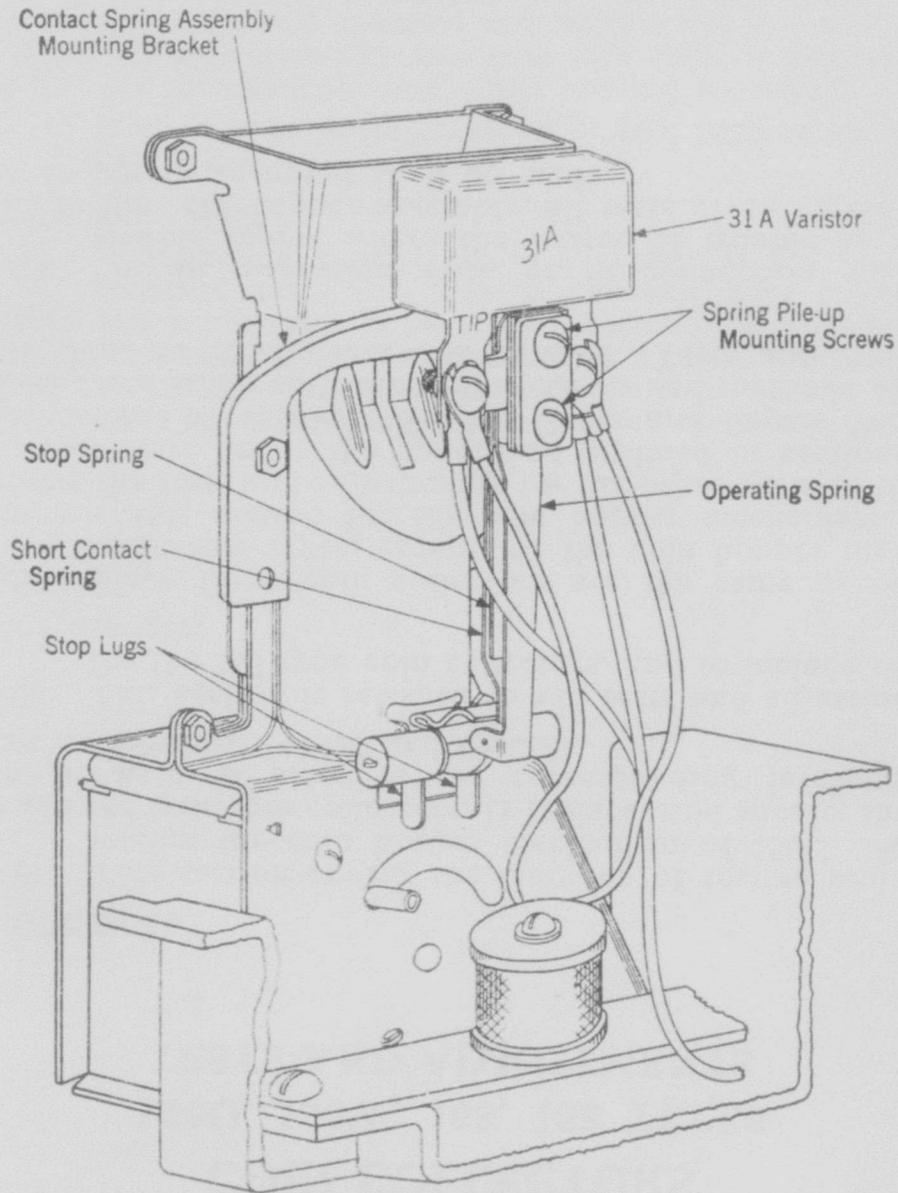

Fig. 1—Coin Hopper Assembly with 31A Varistor
2.03 These coin collectors are now normally furnished equipped with a No. 31A varistor. At existing installations varistor should be installed when specified by service order or other local instructions. Varistor should be mounted as shown in Fig. 1. Varistor terminal marked "Tip" (+) must always be connected to contact spring terminal which is on tip side of line, which, if the station is connected in standard manner, will be on left side, except at ring party stations, where it will be on right side.